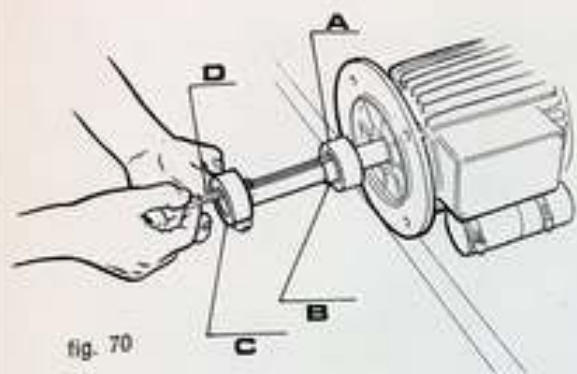
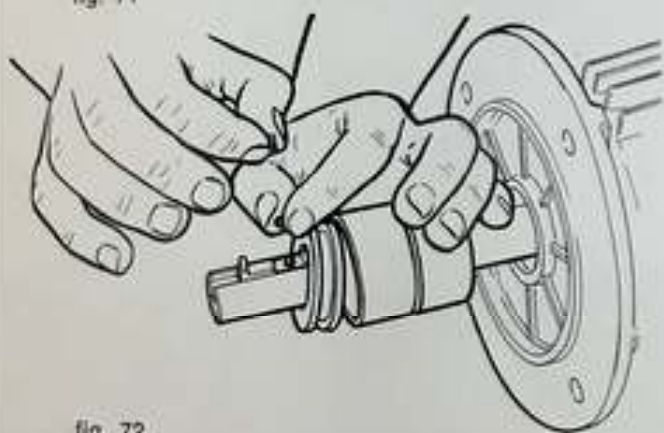

fig. 70
fig. 72
Then we mounted the spacer (B), followed by the next pulley (C) – saw drive. – The key (D) was placed in the groove on the shaft (Fig. 70). Before sliding the key all the way along the groove on the drive shaft, we mounted the spacer (E). Then we mounted the steel ball and the spring in the hole on the key; these are held in place by the spacer (E) (see Fig. 72). Next we slid the spindle moulder spacer (F) on the drive shaft until it touched the sides of the key; a few light blows with a mallet drove it into the hole in the center of spacer (E).